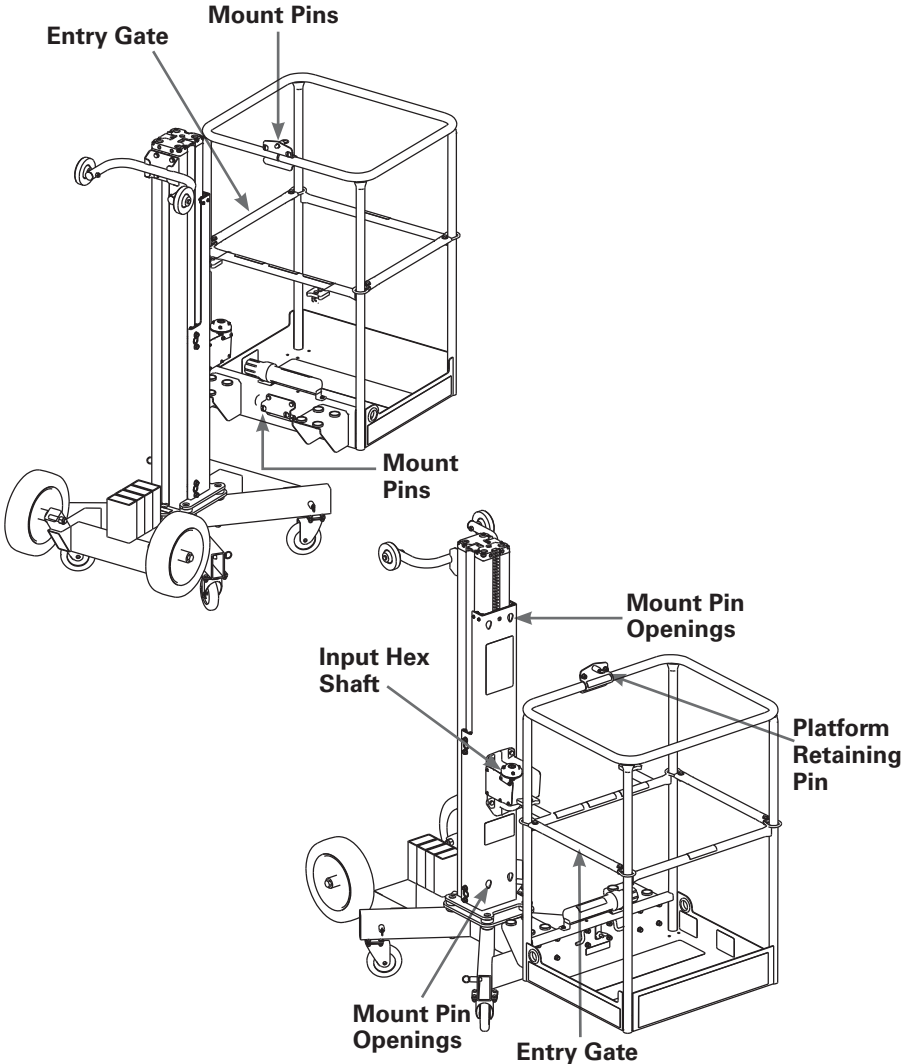

Figure 2-6 - Platform Mounting and Retaining Pins
9. **Platform and Entry Gate** - Check to be sure that the mounting pins are not loose; platform railing is undamaged; platform retaining pin is functioning properly; self closing slide gates are functioning properly; no cracks or visible corrosion present. (See Figure 2-6)